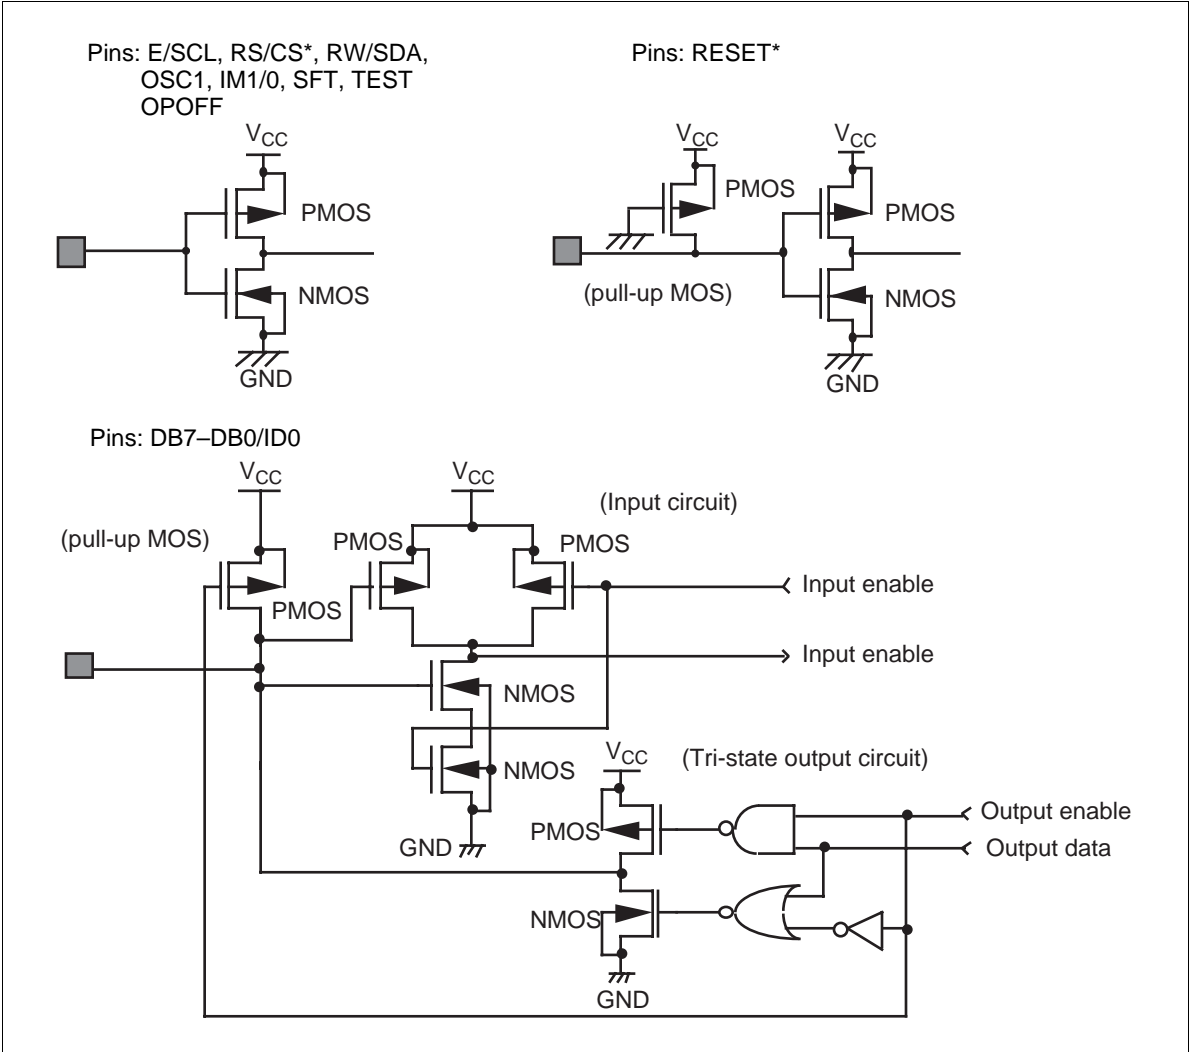

Figure 46 I/O Pin Configurations
- 5. The following four circuits are I/O pin configurations except for liquid crystal display output (Figure 46).